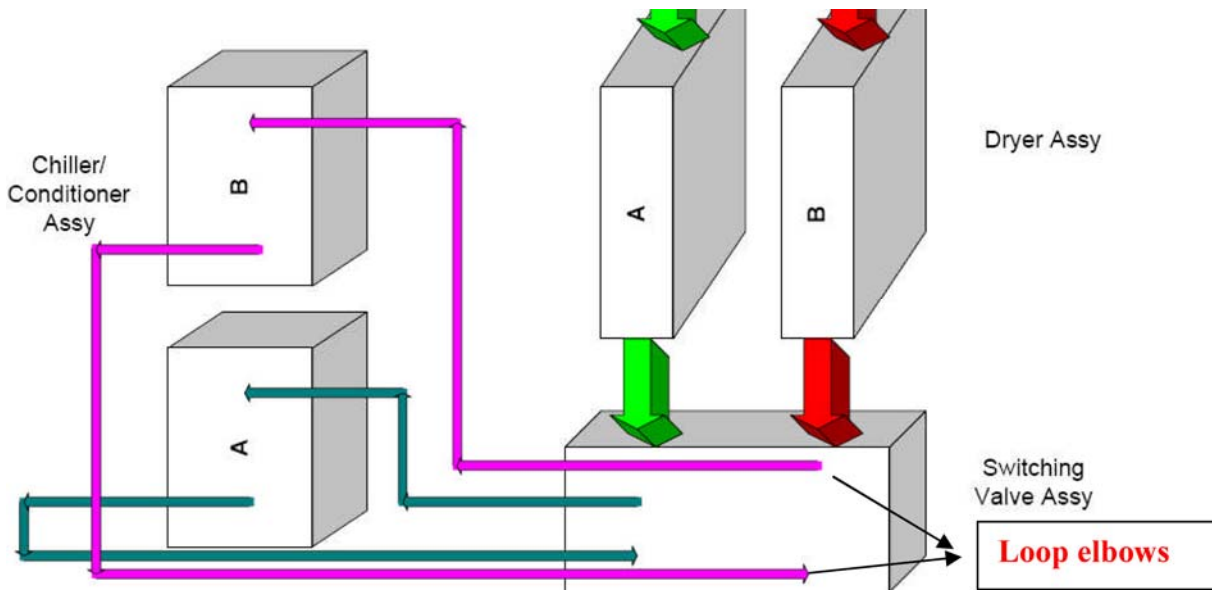

Figure 9-6. Isolate the chiller by “looping the elbows”.
4. Isolate the switching valve from the chiller/conditioner by disconnecting the Teflon lines to the chiller on the associated channel. “Loop” the two elbows on the front of the switching valve by connecting them together using the solid Teflon tube that normally connects the top port on the chiller assembly to the switching valve (**Figure 9-6**). Run the Leak Check Wizard again; if the Wizard indicates a pass, check the seating of the purge filter and seals and return to Step 3. If the test fails, go to the next connection point—the top of the air tube assembly.